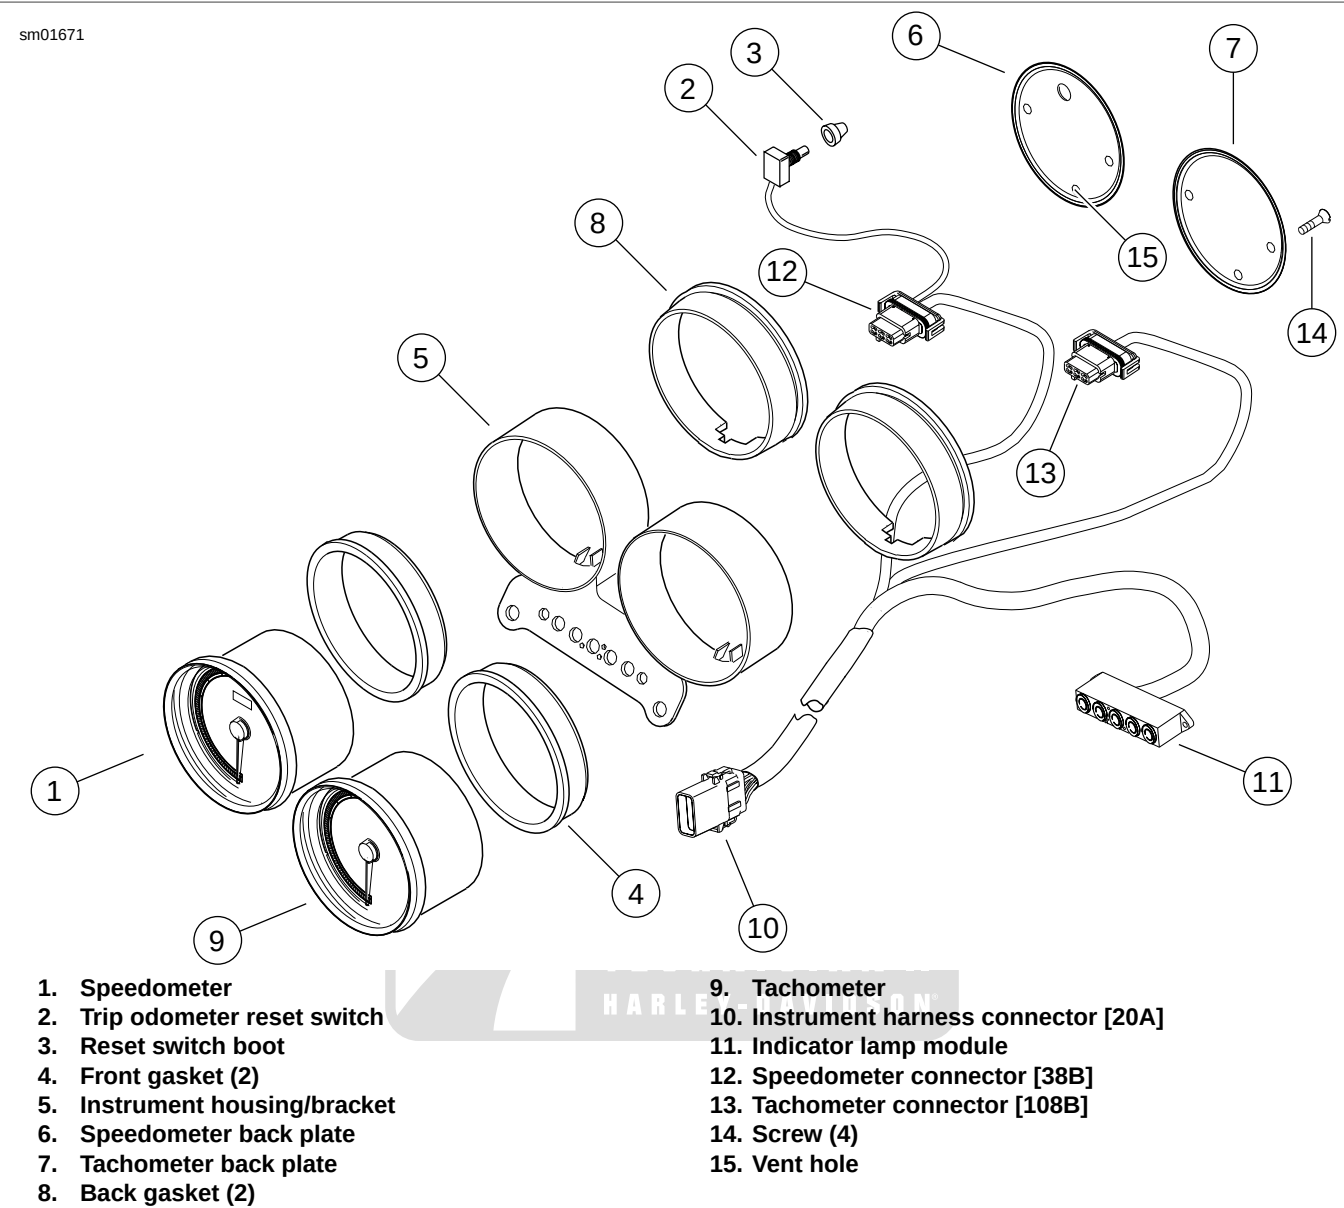

Figure 6-18. Speedometer and Tachometer: Dual Gauge Models
2. See Figure 6-18. Install front gasket (4) on speedometer (1).
3. Thread wiring through back gasket (8) and install matching tabs of gasket to locating keys in instrument housing/bracket (5).
1. See Figure 6-18. Install front gasket (4) on tachometer (9).
2. Thread wiring through back gasket (8) and install gasket matching tabs to locating keys in instrument housing/bracket (5).
5. See Figure 6-18. Align back plate (7) with vent hole at bottom. Install back plate screws (14) and tighten.